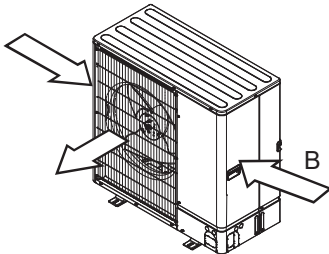

Fig. 2-5
- (3) Position the unit so that the air outlet blows perpendicularly to the direction of the wind. (Fig. 2-5)